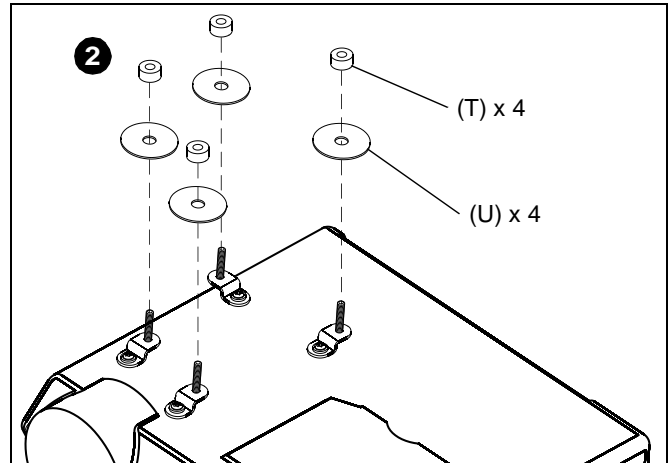

Figure 7
2. Add washers (U) to the projector security legs (R). Add spacers (T) as necessary to the projector security legs (R). (See Figure 7)